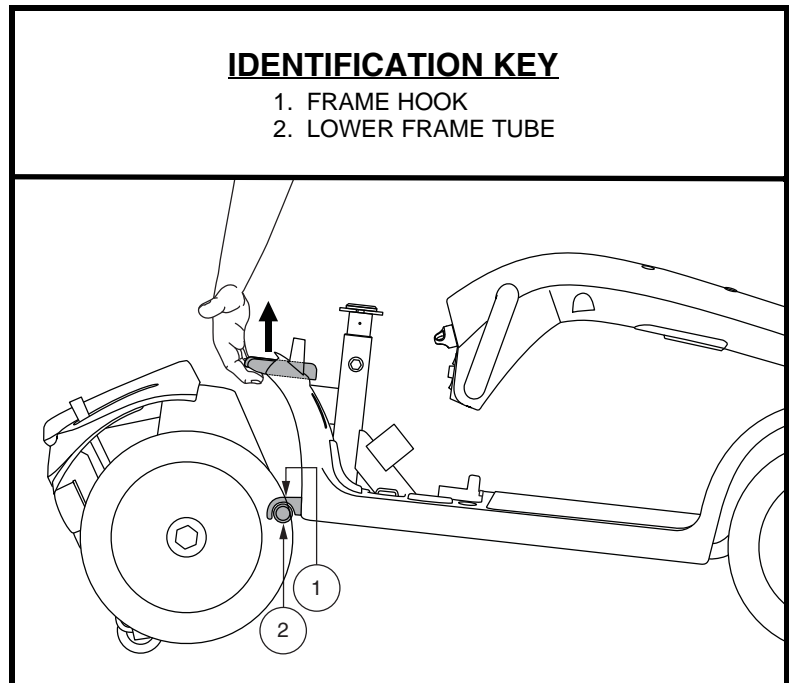

Figure 23. Frame Release Lever
3. Grasp and lift up on the frame release lever. **See figure 23.**
1. Position the front and rear sections of your scooter as shown in **figure 23.**